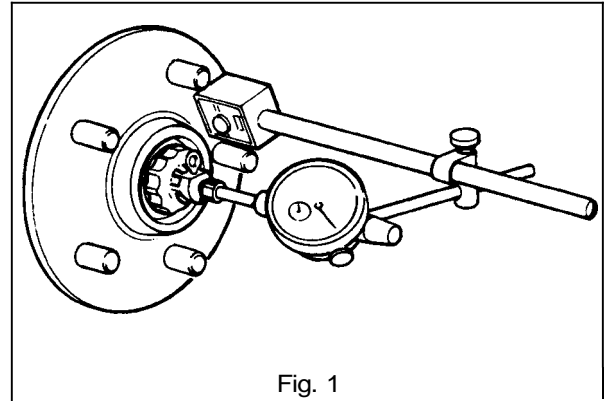

Fig. 1
- Remove the track rod ball joint nut (and discard) (2 Fig. 1) at the steering arm (3 Fig. 1).
- **End float.** Set a Dial Test Indicator (DTI) as shown in Fig. 1 and adjust the hub nut to achieve the correct end float. As the adjustment is made, continually load the hub axially in both directions.